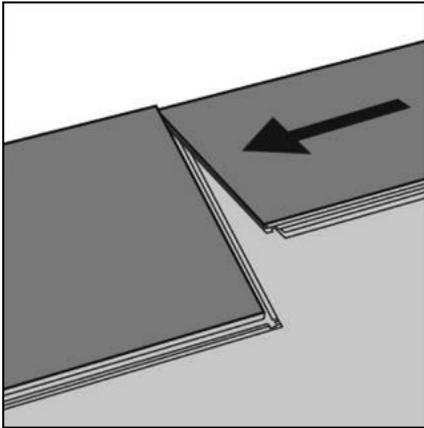

Figure 22 Second plank, first row
- ▶ Place the short end of the second plank close to the corresponding short end of the previous plank. Carefully fold it down with a single action movement; (fig. 22).